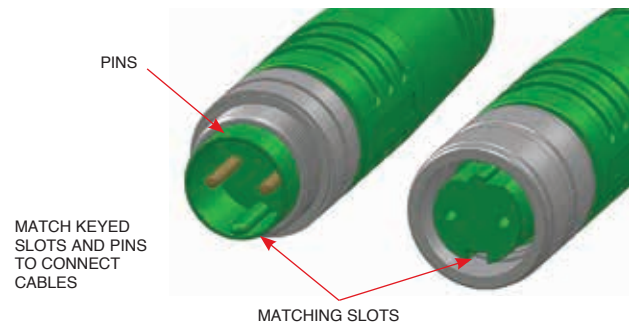

FIGURE 5-10
- Align the male end with the female end by positioning keyed slots and pins in the proper orientation, see Figure 5-10.